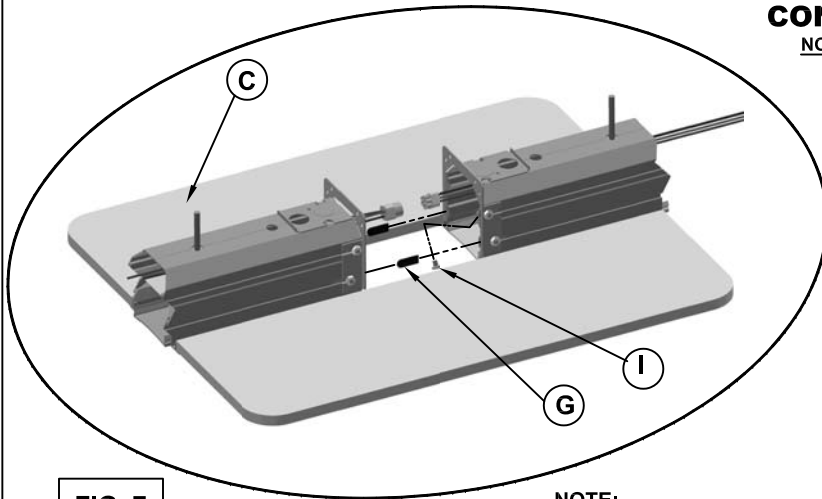

FIG. 7
MOUNT NEXT FIXTURE IN A SIMILAR FASHION AS FIRST FIXTURE AND POSITION IT SUCH THAT THE ALIGNMENT TABS (G) FIT INTO THE FIRST FIXTURE. MAKE CONNECTION OF THE WIRE HARNESS (H) AND PUSH EXCESS WIRE BACK INTO FIXTURE. MAKE SURE THAT WIRE IS NOT PINCHED BETWEEN JOINT AND SLIDE FIXTURES TOGETHER. JOIN FIXTURES TOGETHER WITH THE SCREW (I) SUPPLIED BY PASSING IT THROUGH ELONGATED HOLE IN SOCKET PLATE AND SCREWING IT INTO HOUSING SCREW SLOT CHANNEL. (REF. FIG. 7)